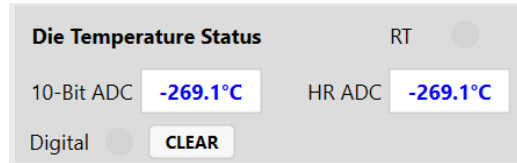

Figure 39: Die Temperature Monitor
41. Figure 39 shows the die temperature monitor.